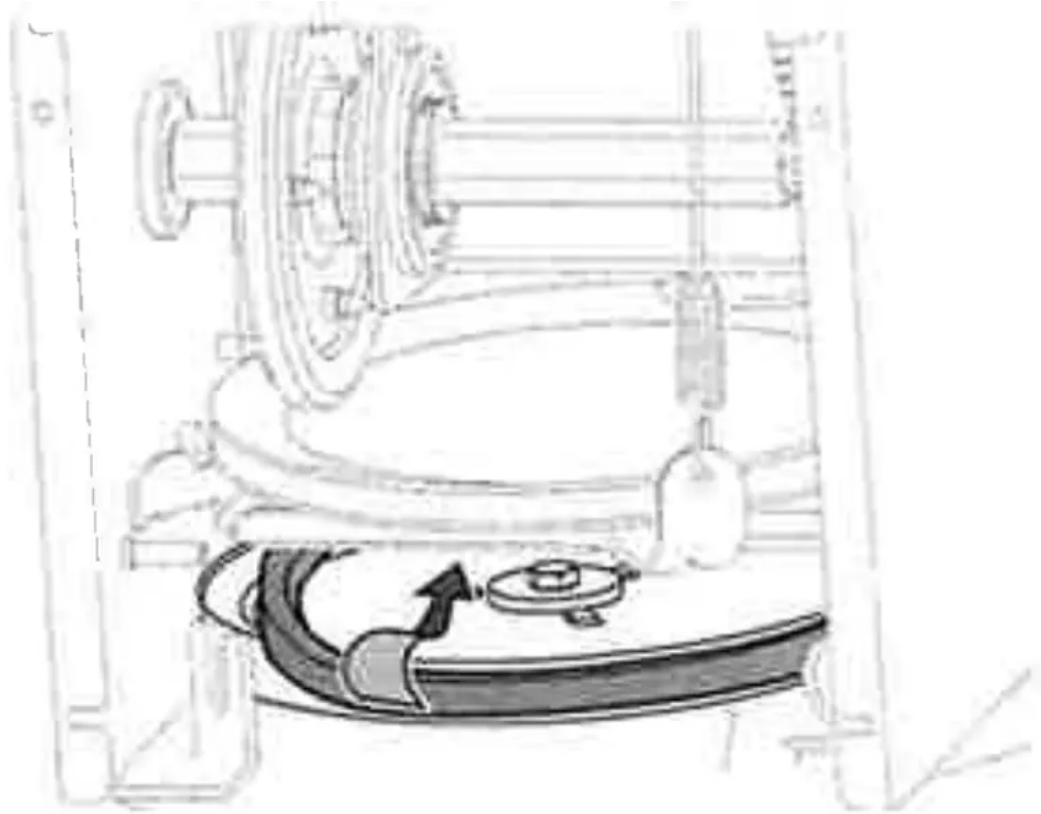

Figure 85
7. Remove belt from around auger pulley, and slip it between support bracket and auger pulley (Figure 85).